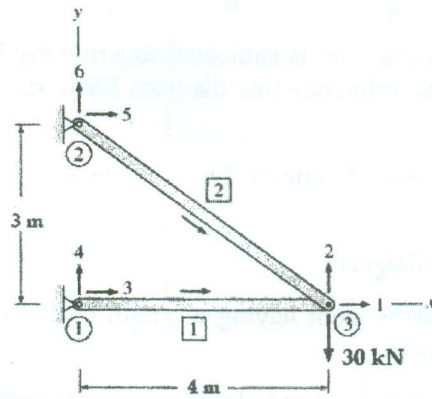

Fig.2
14. a) For the truss shown in Fig.2 find the direction cosines λ_x and λ_y for the member of the structure. 3 2 4 2
- b) Perform analysis of the truss shown in Fig.2 using direct stiffness method to find force in member 1. 5 3 4 2